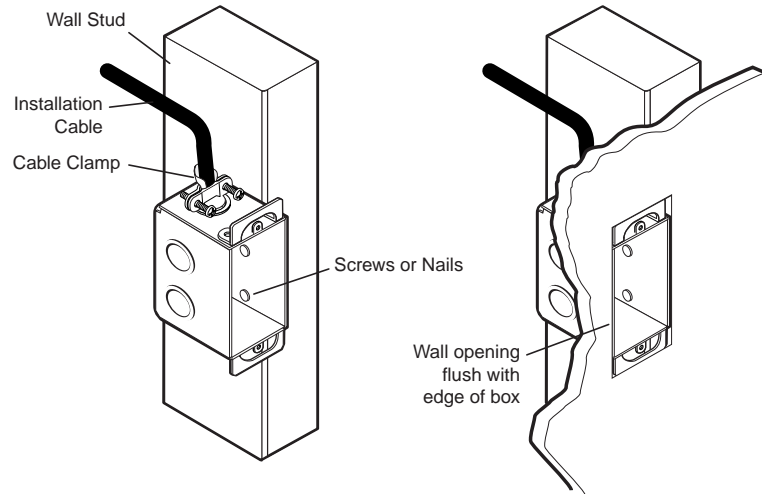

Figure 2-3 — Attaching a wall box to a stud
- 5b. If you are using a wall box, insert the wall box into the opening, and attach it to the wall stud or furniture with nails or screws, leaving the front edge flush with the outer wall or furniture surface (figure 2-3). The illustration applies to both two-gang and four-gang wall boxes.